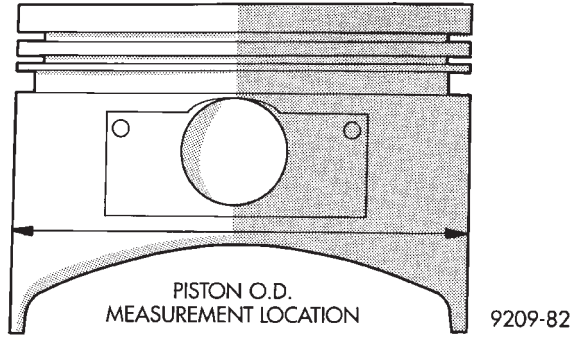

Fig. 4 Measure Piston
(1) Bore to specified clearance between the piston O.D. and cylinder. The measuring point of the piston O.D. is shown in (Fig. 4).
(2) Based on measured piston O.D., calculate boring finish dimension. Boring finish dimension equals piston O.D. plus 0.03 to 0.05 mm (.0012 to .002 inch) (clearance between piston O.D. and cylinder) minus 0.02 mm which is the boring margin.